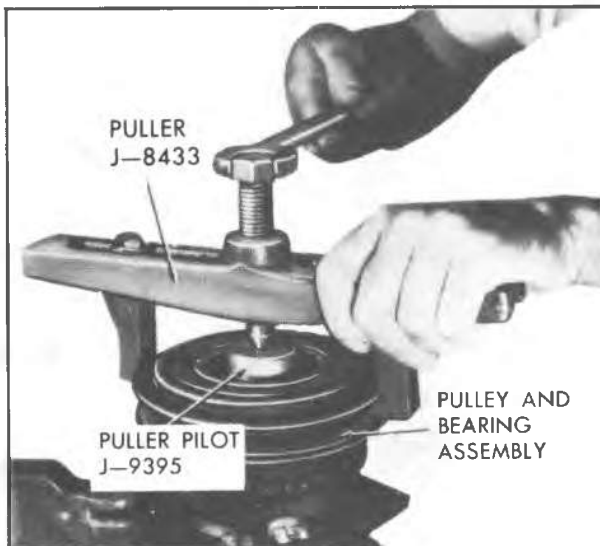
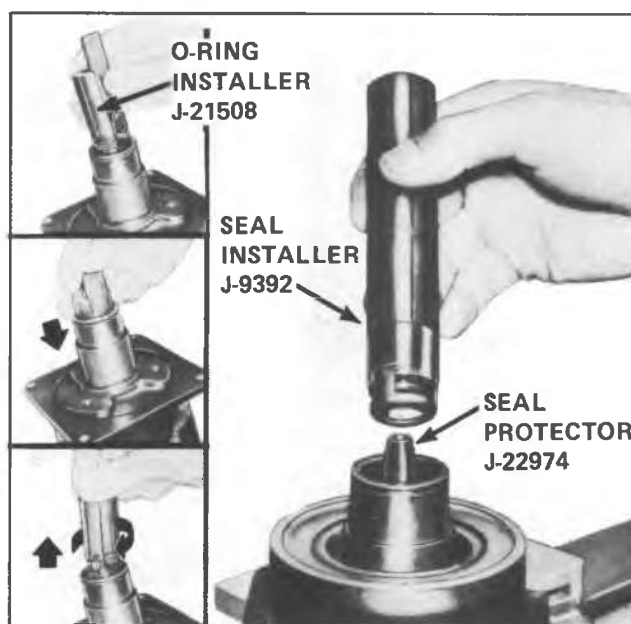
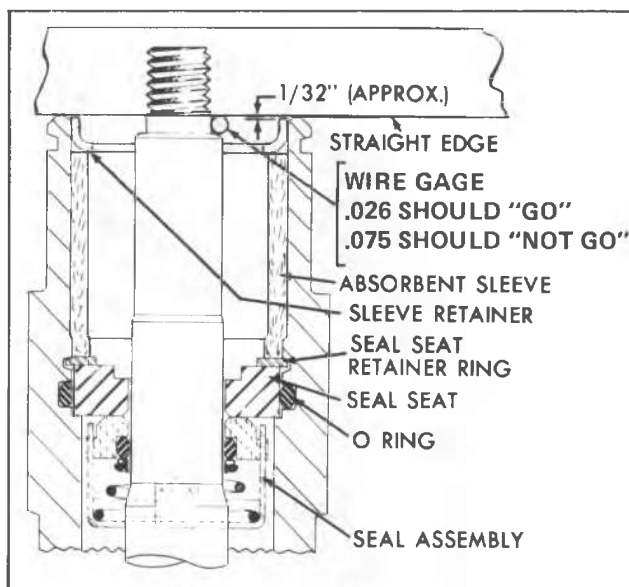

Fig. 11--Removing Pulley and Bearing Assembly
Fig. 20—Replacing Seal and O-Ring
Fig. 21—Compressor Shaft and Seal
5. Remove Pulley and Bearing Assembly using Pulley Puller J-8433 (Fig. 11).
on Seal Installer J-9392 by twisting the tool **clockwise**, while **pressing the tool down**. Then lift the seal assembly out (see Fig. 20).
1. Coat new seal seat O-ring with clean 525 viscosity refrigerant oil and install in compressor neck, **making certain it is installed in bottom groove** (Fig. 20 and Fig. 21). Top groove is for retainer ring. Use O-Ring Installer J-21508.
2. Coat the O-ring and seal face of the new seal assembly with clean 525 viscosity refrigerant oil. Carefully mount the seal assembly to Seal Installer J-9392 by engaging the tabs of the seal with the tangs of the tool (Fig. 20).
3. Place Seal Protector J-22974 (Fig. 20) over end of shaft and **carefully slide the new seal assembly onto the shaft. Gently twist the tool CLOCKWISE, while pushing the seal assembly down the shaft** until the seal assembly engages the flats on the shaft and is seated in place. Disengage the tool by pressing downward and twisting tool counterclockwise.
9. Position the new metal sleeve retainer so that its flange face will be against the front end of the sleeve. Pulley Puller Pilot J-9395 (See Fig. 11) may be used to install the retainer. Press and tap with a mallet, setting the retainer and sleeve into place (retainer should be recessed approximately 1/32" from the face of the compressor neck). See Fig. 21.
To check for proper positioning of the axial plate on the shaft, remove the clutch driven plate and measure the distance between the front head extension and the flat shoulder on the shaft as shown in Fig. 21. To measure this distance, use a wire gage (**the clearance should be between .026" and .075"**). If the shaft has been pushed back in the axial plate (measurement greater than .075"), disassemble the compressor and replace the shaft and axial plate assembly rear thrust races and thrust bearing.